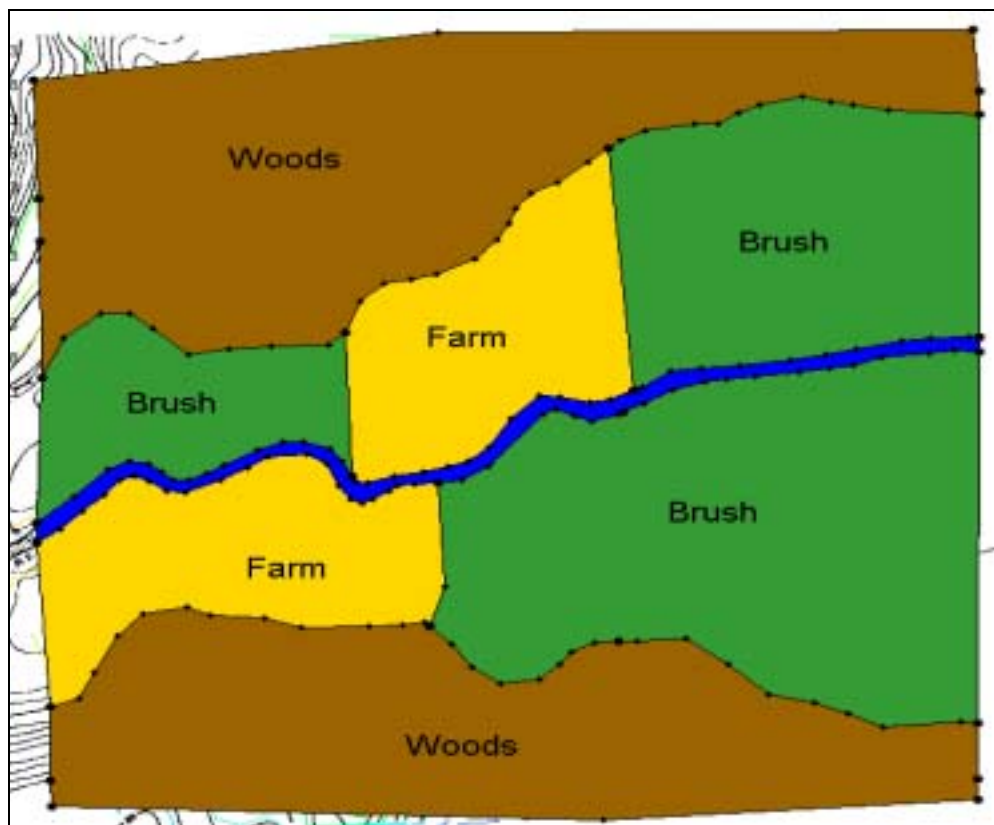

Figure 16-5 Material type boundaries.
5. Repeat this process for each of the material zones, assigning the materials as shown in Figure 16-5.